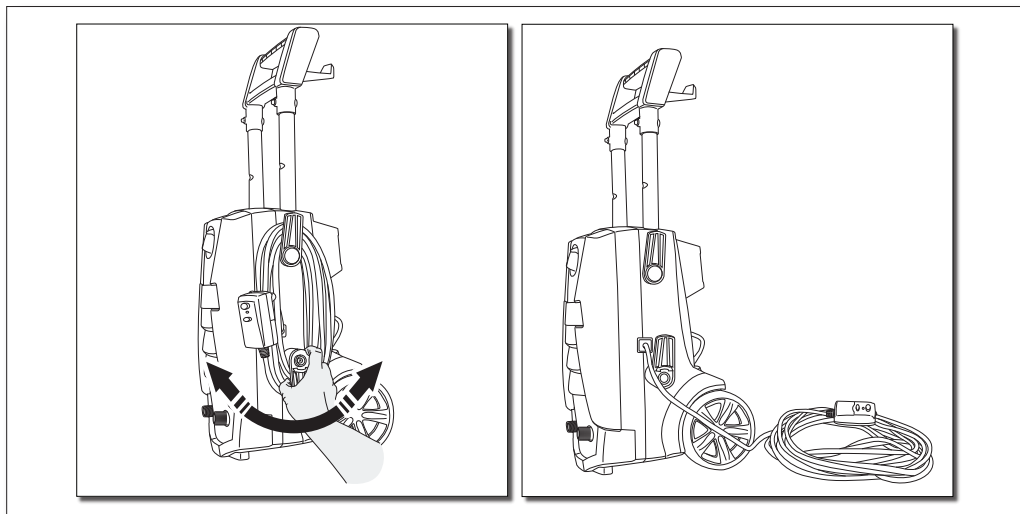

Fig. 5
- Easily remove the power cord from side of unit by swiveling the bottom cord hook to the right or left until it faces up. The power cord then can be easily slid off of the side of the power washer unit. (**Fig. 5**)